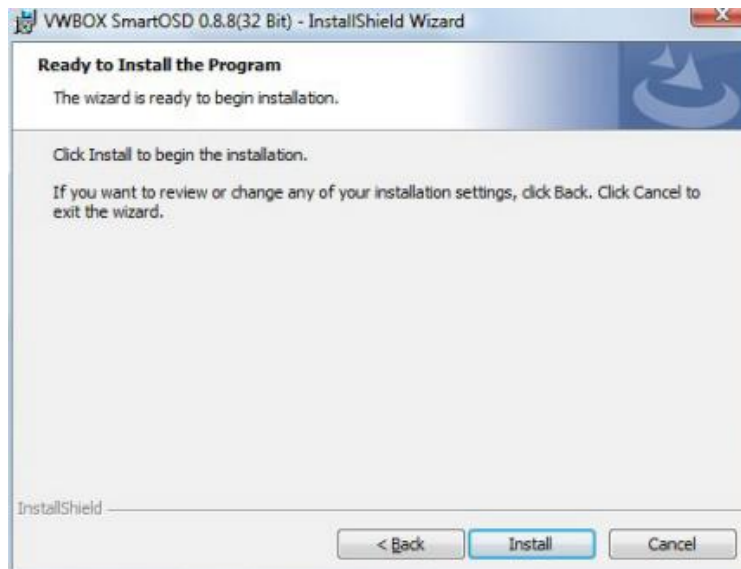

Figure 4-16: SmartOSD Ready to Install
Step 6: The program is now ready to install. Click “Install” to continue (**Figure 4-16**).